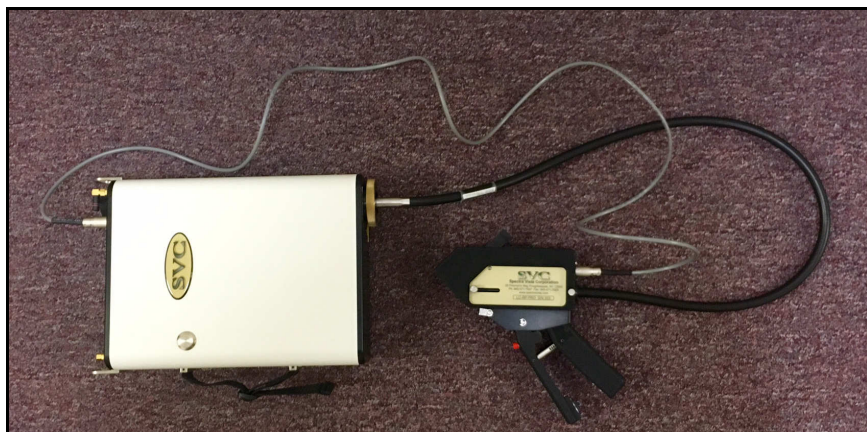
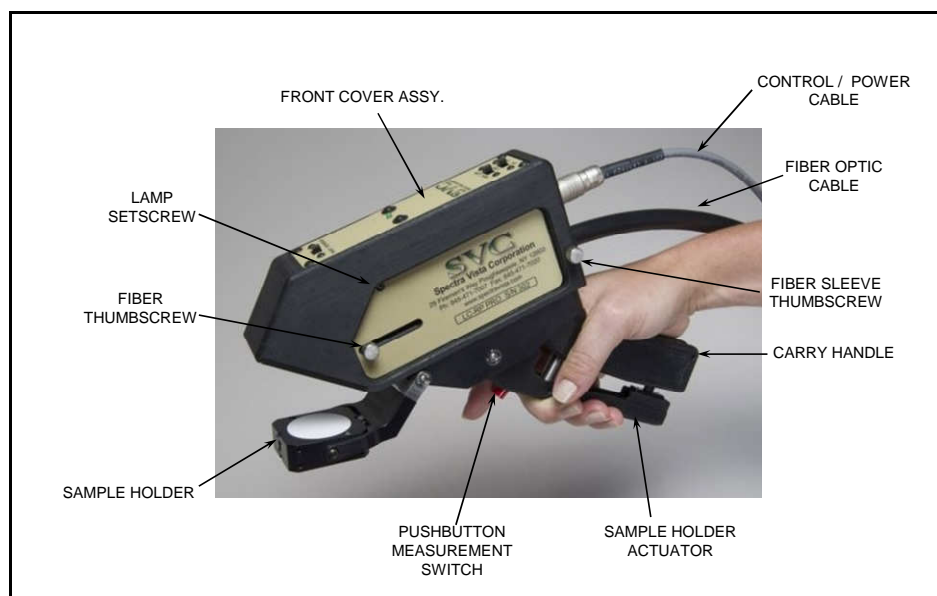

Figure 3 Instrument Connection Overview
Figure 5 Controls and Features View 1
- **Fiber sleeve removal** – is achieved by removing the fiber thumbscrew (see Figure 5), removing the fiber optic cable from the sleeve, loosening the sleeve thumbscrew then pulling out the fiber sleeve. Installation is the reverse. There is an orientation pin for the sleeve to align the sleeve so that the fiber thumbscrew can feed into its tapped hole on the sleeve to hold the fiber optic cable.
Refer to Figure 3, Figure 5, and Figure 10 for fiber/electrical connections.